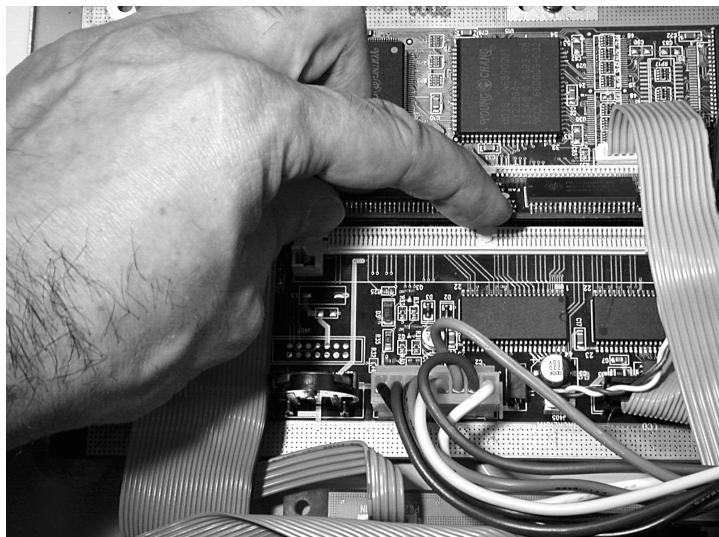

Figure 14 Placing option board in SIMM socket
4. Press straight down on the top edge of the board, as shown in Figure 14, until the locking tabs at each side of the socket snap into place.